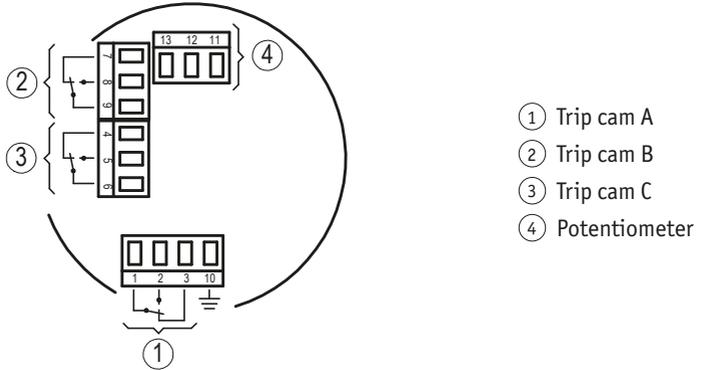
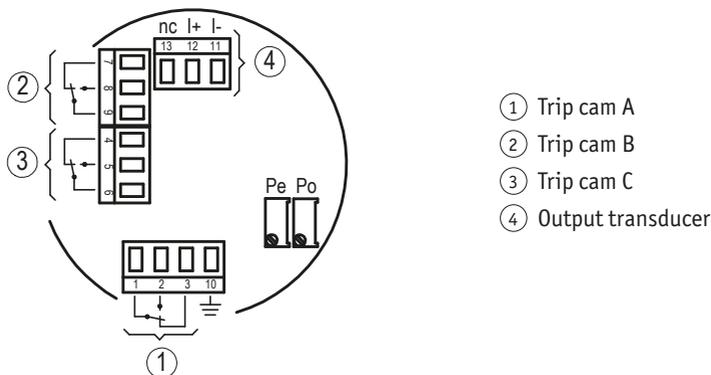

Fig. 5: Pin connection without Instrument transformer
Fig. 7: Pin connection with Instrument transformer
- Connect strands to the clip terminals (Fig. 5 and Fig. 7).
The instrument transformer is preset to standard values 4 mA for potentiometer's start position (Po) and 20 mA for end position (Pe). Via two trim potentiometer's Po and Pe (see Fig. 7) these values can be adjusted to the application's actual start and end position.
2. Turn potentiometer (Po) (see Fig. 7) until start value (4 mA) is measured.
4. Turn potentiometer (Pe) (see Fig. 7) until end value (20 mA) is measured.